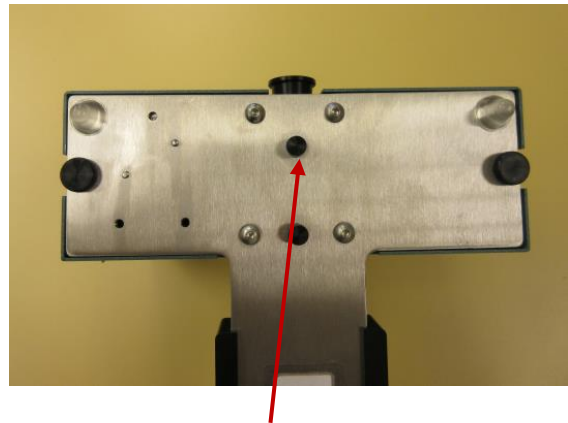

*Figure 3.1.2 Bushing (outlet) set screw*
- Flip the cutter upside down, loosen the outlet bushing set screw and remove bushing from cutter. *Figure 3.1.2*
- While holding bushings against blade, tighten inlet and outlet set screws. **Figure 3.1.2&3.1.4**